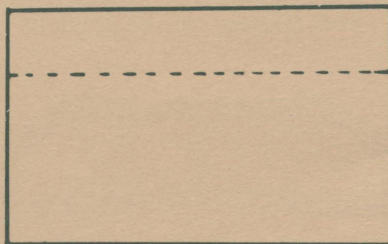

Figure 22a. Making and applying sleeve heads
- Mark a line 1 inch (2.5 cm) from one long edge (Figure 22a).